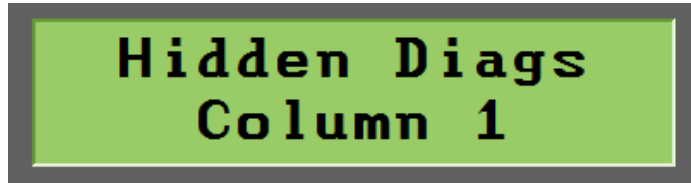

Figure 4-4. First Level of Hidden Diagnostics Menu
4. Press “Enter” to access the first level of the hidden Diagnostics menu. The text in Figure 4-4 will be displayed.